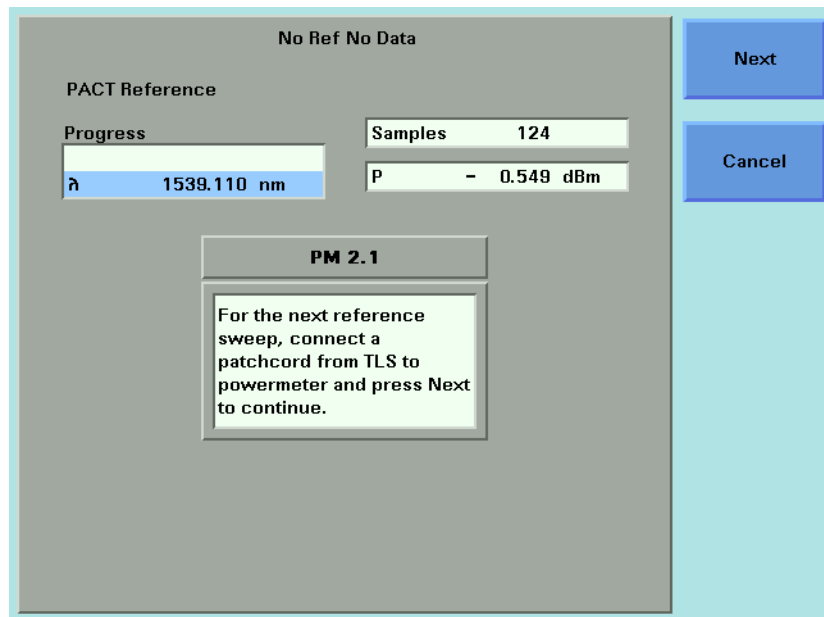

Figure 166 Connection Prompt Screen
**20** Press [New Ref]. A box similar to the box in Figure 166 appears prompting you to connect a fiber to the first Power Meter channel.
If there is another Power Meter channel to reference, you will be prompted to perform this reference measurement from the user interface by a prompt box similar to the box in Figure 166 . Restart this procedure at step 21.